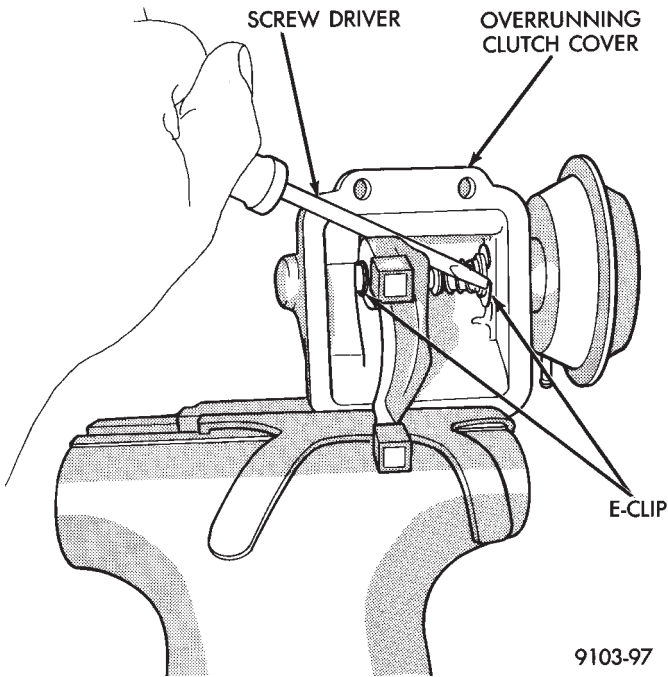

Fig. 3 Remove Two E-Clips
- (6) Remove two E-clips from vacuum motor shaft (Fig. 3).